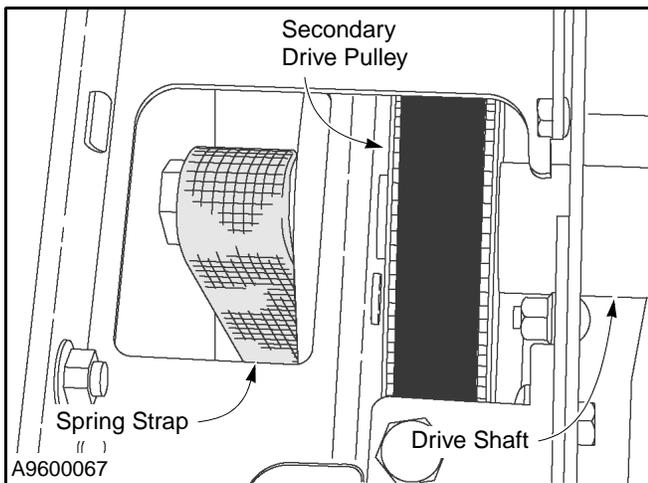

Figure 21
7. Inspect the hardware used to attach the secondary drive pulleys to the left and right drive shafts. Tighten the hardware as required. Replace any missing or damaged hardware. (See Figure 21.)
8. Inspect the clamp plate securing the upper end of each spring strap to its respective drive shaft. Tighten the hardware as required. Replace any missing or damaged hardware. (See Figure 21.)